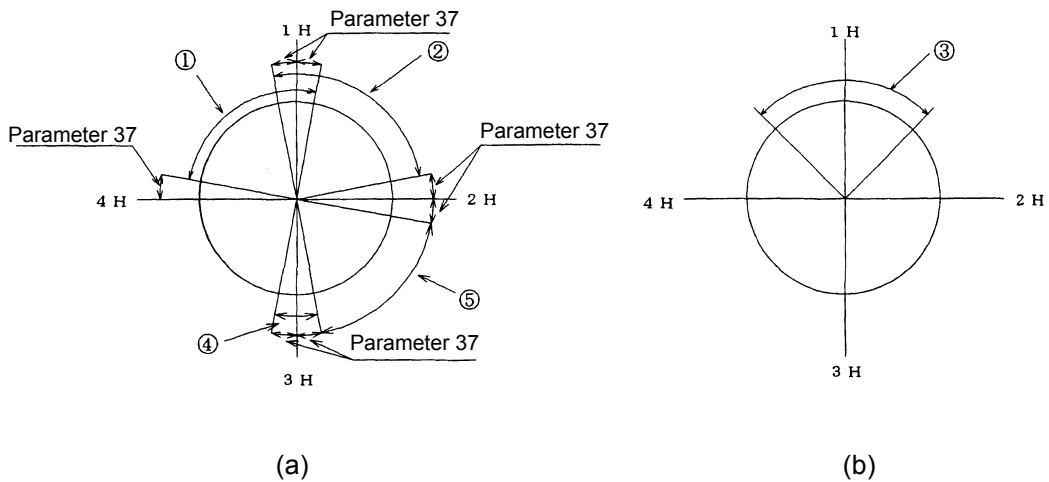

Fig. 7.9 Equal Segment Designation (G101) & Parameter
(1) Motion of G91A0F□□ (in case of A0 for incremental instruction)
① Parameter 38 = 1 (CW direction)
When within ① range for (a), Fig. 7.9, executing G101A4;G91A0F□□ will cause the actuator to move to 1H position. (□□ is any value for specifying motion time or speed.)
② Parameter 38 = 2 (CCW direction)
When within ② range for (a), Fig. 7.9, executing G101A4;G91A0F□□ will cause the actuator to move to 1H position.
③ Parameter 38 = 3 (Nearer direction)
When within ③ range for (b), Fig. 7.9, executing G101A4;G91A0F□□ will cause the actuator to move to 1H position (nearest position). The parameter 33 will not influence motions.
④ If parameter 38 = 4 (alarm C is caused outside the vicinity of segment position)
If G101A4;G91A0F□□ is executed in the range specified ④ in Fig. 7.9 (a), a travel to position 3H occurs.
(2) Motion of G91A-1F□□ and G91A1F□□
① Parameter 38 = 1 (CW direction), or 2 (CCW direction)
When within ① range for (a), Fig. 7.9, executing G101A4;G91A-1F□□ will cause the actuator to move to 4H position.
② Parameter 38 = 3 (Nearer direction)
In this case, the actuator moves based upon the nearest indexing position from the current position. When within ③ range for (b), Fig. 7.9, executing G101A4;G91A1F□□ will cause the actuator to move to 2H position and G101A4;G91A-1F□□ will cause the actuator to move to 4H position.
③ If parameter 38 = 4 (alarm C is caused outside the vicinity of segment position)
If G101A4;G91A-1F□□ is executed in the range specified ④ in Fig. 7.9 (a), a travel to position 2H occurs.
(3) Motion of M 70
① For Parameter 38 = 1 (CW direction) or 2 (CCW direction)
Within the range ④ in the Fig. 7.9 (a), executing G101A4;M70; will cause CN3 M code to output the current segment position (segment position 3 .. bit 0 and 1 in the Figure). Outside the range (range ⑤) of the parameter 37, one previous segment position (segment position 2 .. bit 1 in the Figure) is output and in-position output turns off while this signal is output. Segment positions are determined with the first head at the coordinate home position to CW direction followed by 2, 3, 4....
② Parameter 38 = 3 (Nearest head)
Within the range ③ in the Fig. 7.9 (b), segment position 1 (bit 0) is output.
If G101A4;M70; is executed in the range specified ④ in Fig. 7.9 (a), the current segment position (segment position 3 in the figure ... bit 0 and bit 1) is issued from the M code output pins of CN3. If the command is outside the parameter 37 range (in range ⑤), alarm C is caused when G101A4 is executed. The in-position output remains turned on.
- For the timing of the segment position output, refer to **Section 5. 2) (8) "Segment Position Output Timing."**